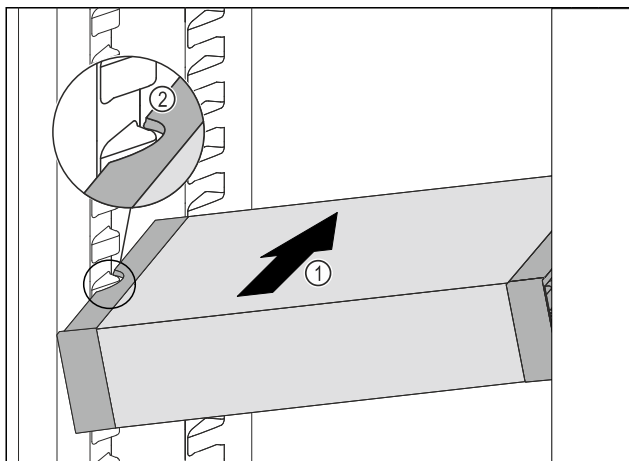

Fig. 81
- ▶ Insert the VarioSafe into the fridge section at an angle *Fig. 81 (1)* until the recesses in the side *Fig. 81 (2)* of the VarioSafe are at the level of the support rib in the fridge section.